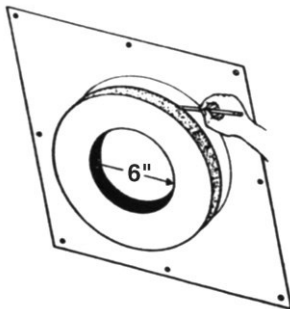

Figure 5: Thimble Length Adjustment
4. Insert the (thick wall) Thimble into the mounted Metal Base. Position thimble firmly against chimney. The Thimble shall protrude at least 1/4 " beyond the Metal Base flange. If the Thimble protrudes more than 1/2" beyond round Metal Base flange (into room), mark Thimble using flange edge as a guide. (See Figure 5) Remove Thimble from Metal Base. Allow 1/4 " to 1/2 " additional length of Thimble beyond the marked line to protrude into the room. This additional length is your cutting line, and is **necessary** for the Thimble to be **firmly** held against the chimney. Using a handsaw cut the excess portion of the thimble off. The use of a facemask is recommended as good practice while sawing Thimble.